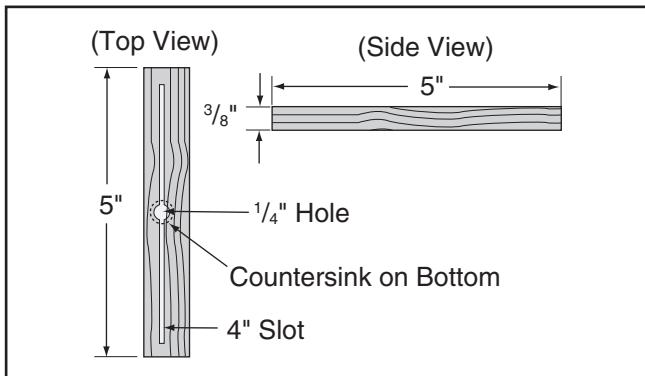

Figure 79. Miter bar pattern.
5. Cut a miter bar approximately 5" long that will fit in table miter slot, as shown in **Figure 79**.